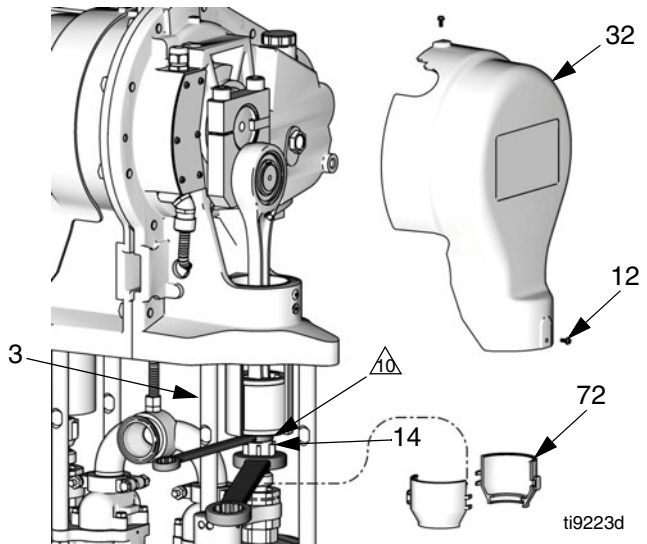

FIG. 1. Remove Coupling Nut
1. Jog the motor to bring the lower on the side being repaired to the bottom of its stroke. This provides access to the coupling nut (14).
3. Remove the 2-piece shield (72) by inserting a screwdriver straight into the slot, and using it as a lever to release the tab. Repeat for all tabs. **Do not** use the screwdriver to pry the shields apart.
4. See FIG. 1. Place a 3/4 in. wrench on the slider piston (9) flats (just above the coupling nut), to keep the slider piston/connecting rod from turning when you are loosening the coupling nut (14). Orient the wrench so it is braced against one of the tie rods (3). Applying excessive force to the slider piston/connecting rod can shorten the life of the lower pin bearing.
9. Loosen the clamps (18) at the inlet and outlet manifolds (17). Remove the manifolds and gaskets (16).
10. Remove the coupling nut (14) and collars (13) from the piston rods (PR).
11. Unscrew the locknuts (15). Remove the lower (22).
12. Remove two screws (12) and the cover. FIG. 1 shows the cover (32) on the side opposite from the motor; the motor side cover is (21).
13. Remove the setscrew (31). Unscrew the slider cylinder (2) from the gear reducer (1).
14. Remove the bearings (8) from the slider piston (9).